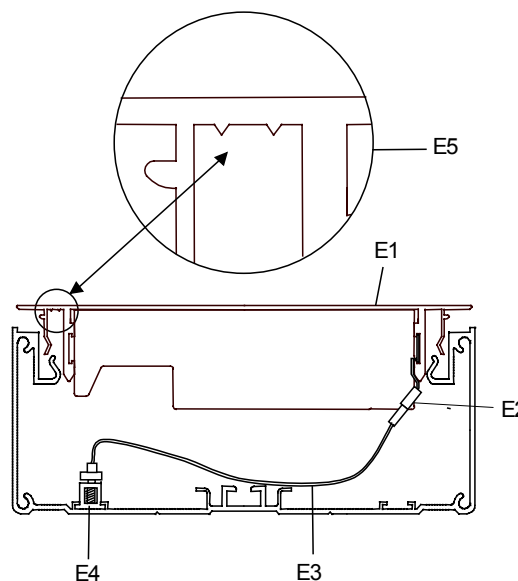

Figure 5: Inserting the modules
- All covers and modules have to be mounted with the attachment mark from the left side (see figure 5).
#### Mounting the modules (figure 5)